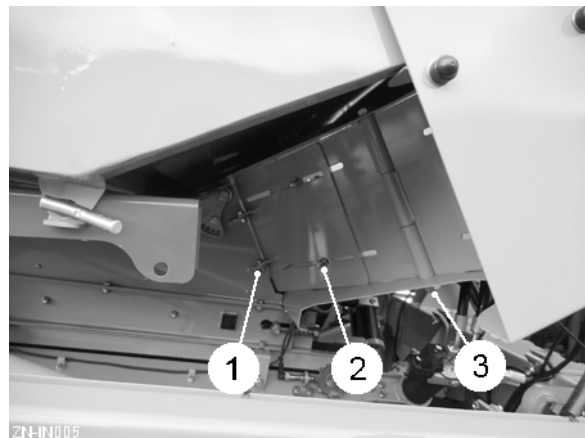

Fig 7
6. Loosen the hopper filler plate lug bolts x4 (item 1, fig 7), the slot bolts x4 (item 2, fig 7) and the mounting bolts x2 (item 3, fig 7).
8. Depending on row centres, it may be necessary to remove the filler plate mounting bolts (item 3, fig 7) and position them in a different hole in the hopper panels.